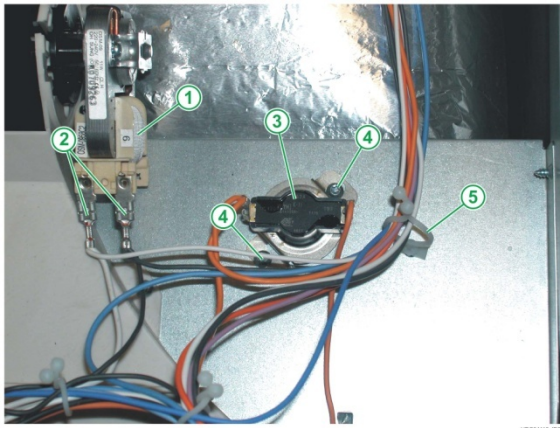

Fig. 4
6. Unhook the cabling from the plastic cable fastener (see Fig. 4).
- the 2 fixing screws on the safety thermostat (see Fig. 4).